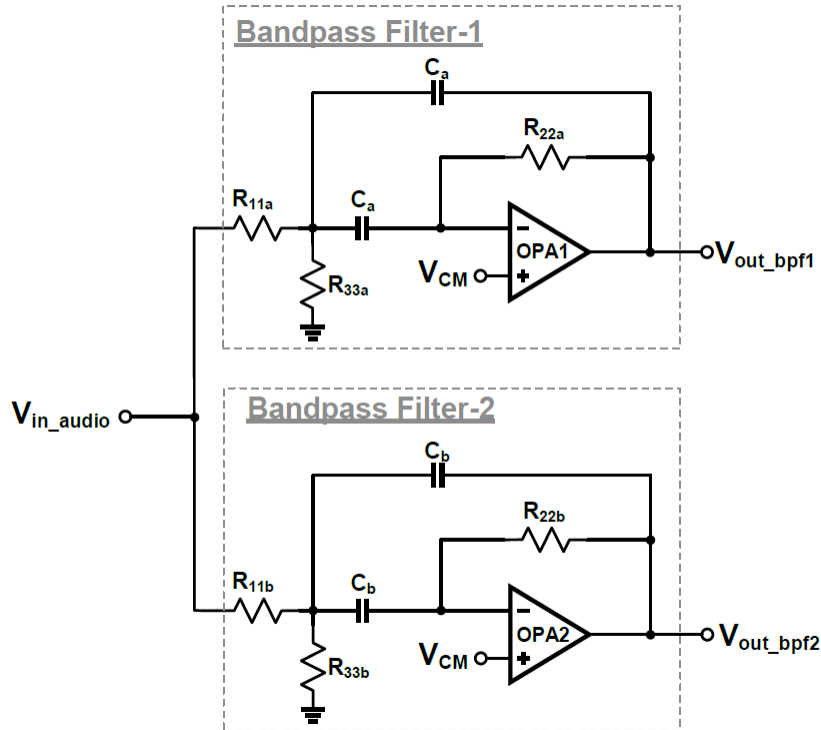

Figure 8 Schematic diagram of a bandpass filter.
The objective of experiment-4 is to design two different bandpass filters in Figure 8. Audio input (V_{in_audio}), which is a fixed frequency sinusoid tone, is used as input to the bandpass filter. Each bandpass filter is designed to respond to a desired frequency tone and reject other frequencies.
1. Derive the transfer function of bandpass filter shown in Figure 8 and prove that it is a second order bandpass filter having transfer function equivalent to: